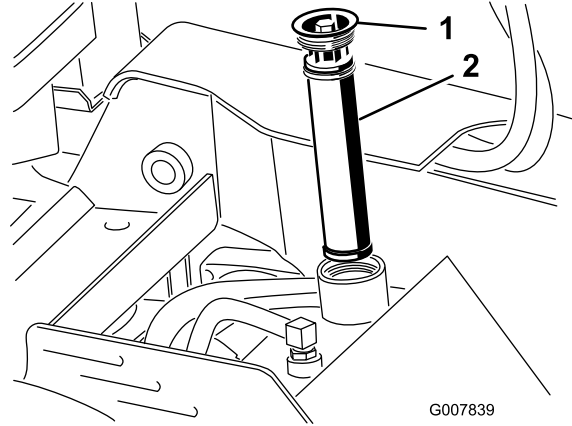

Figure 57
4. Remove and discard the old filter (Figure 57).
5. Install the replacement hydraulic filter and filler cap (Figure 57) and torque the bolt on top to 13 to 15.5 N·m (110 to 140 in-lb).